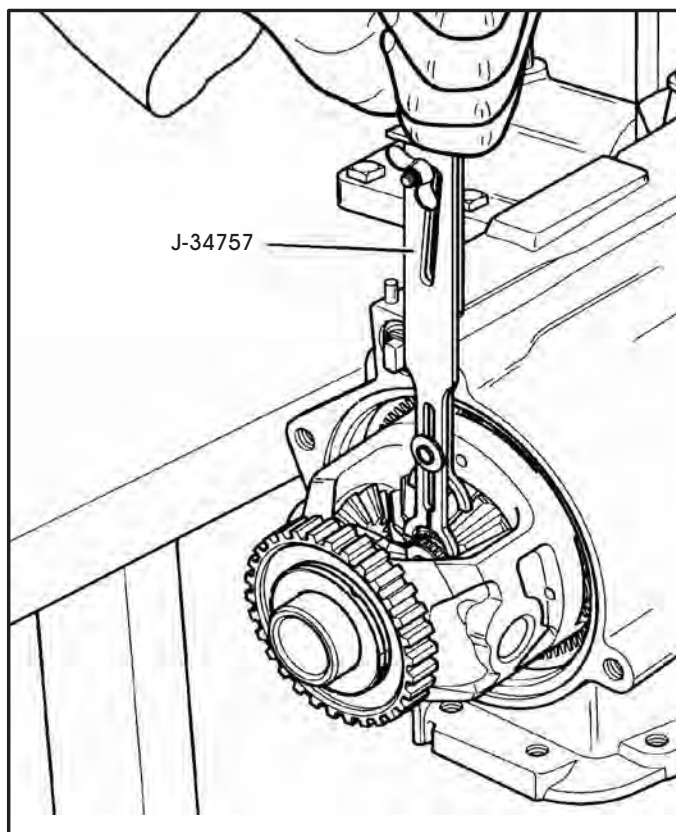

Figure 186
41. Install the output shaft inboard retaining ring, using the installation tool J-34757, as shown in Figure 186.
42. Hold final drive and push retaining ring onto output shaft with J-34757, or "pop-on" using screwdriver (See Figure 186).